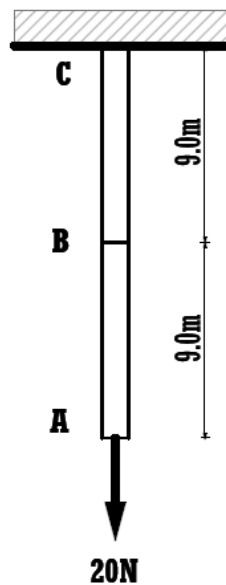

Fig 4
- b) A steel rod ABC as shown in fig 4 is 18m long, with a cross-sectional area of 80mm^2 and weighs 42N. Given the Young's Moduli of Elasticity as 210KN/mm^2 . Calculate the elongations at A and B.